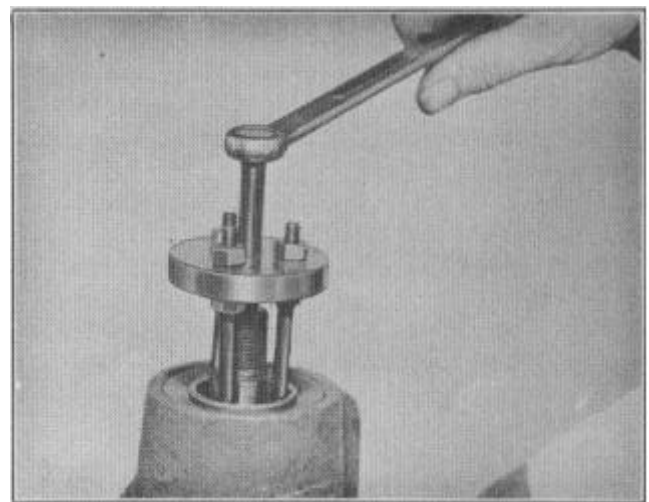

FIGURE 17
3. Remove the three fingers from pinion oil seal remover body 7-2647 and insert hook end of fingers under oil seal entering finger along spline groove of pinion. (Space hook arms equally on pinion splines.) Figure 17.